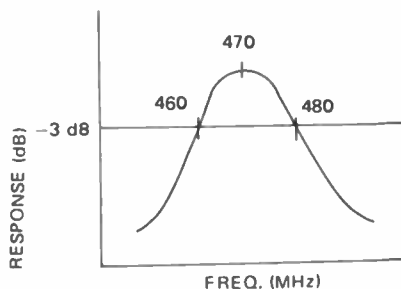

FIGURE 9.
- Step 4: Figure 9 shows a typical example when the center peak frequency is adjusted to 470 MHz.
- Step 5: When the Front-End is adjusted to per Figure 9, the acceptable sensitivity frequency range will be from about 450 MHz to 490 MHz.